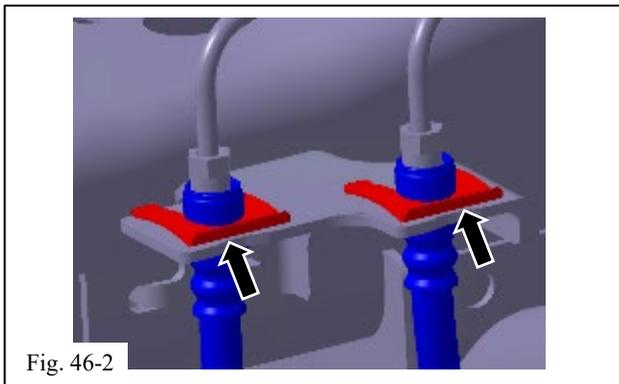

Fig. 46-2
- (c) Install the TRD brake flex hose with two new clips (90468-08035 OR 90468-A0007) supplied in the kit (Fig. 46-2).